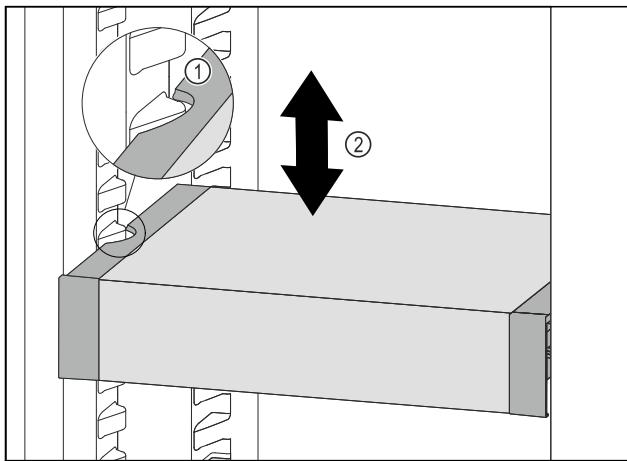

Fig. 98
- ▶ Pull VarioSafe forwards until the recesses in the side of the VarioSafe are at the level of the support rib in the refrigerator compartment. Fig. 98 (1)
- ▶ Move VarioSafe up or down in the refrigerator compartment until the desired height is reached. Fig. 98 (2)